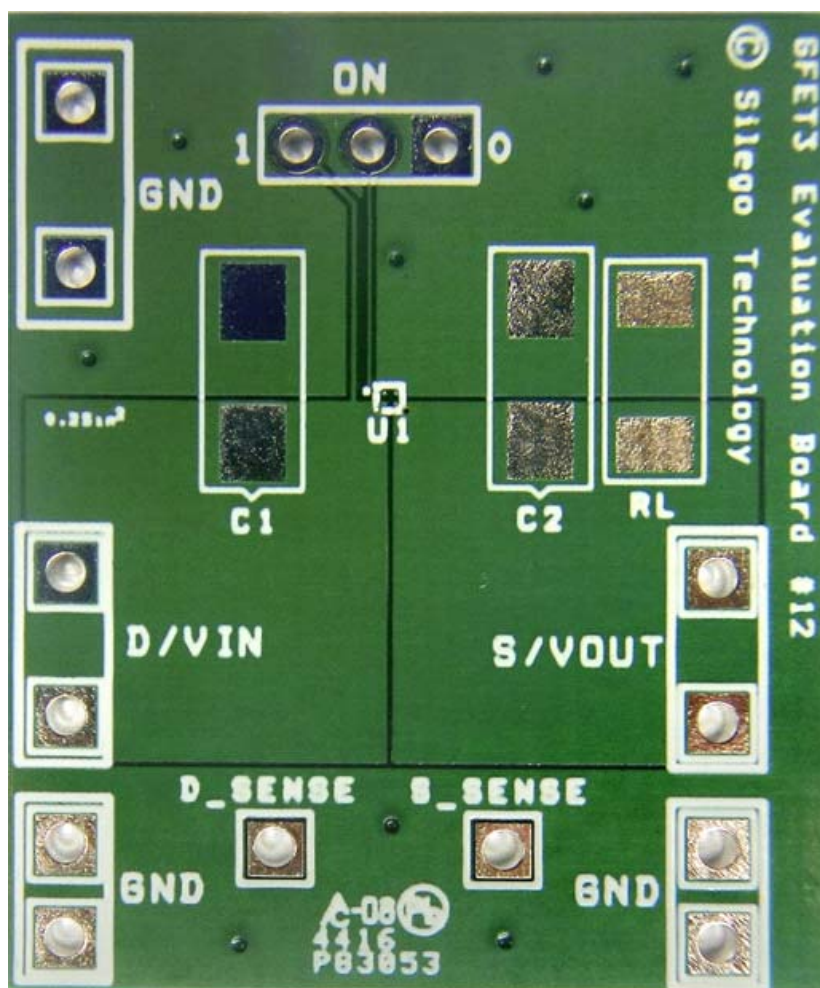

Figure 8. SLG59M1748C Evaluation Board
1. Since the VIN and VOUT pins dissipate most of the heat generated during high-load current operation, it is highly recommended to make power traces as short, direct, and wide as possible. A good practice is to make power traces with an absolute minimum widths of 15 mils (0.381 mm) per Ampere. A representative layout, shown in Figure 8, illustrates proper techniques for heat to transfer as efficiently as possible out of the device;
A GFET3 Evaluation Board for SLG59M1748C is designed according to the statements above and is illustrated on Figure 8. Please note that evaluation board has D_Sense and S_Sense pads. They cannot carry high currents and dedicated only for RDS_{ON} evaluation.